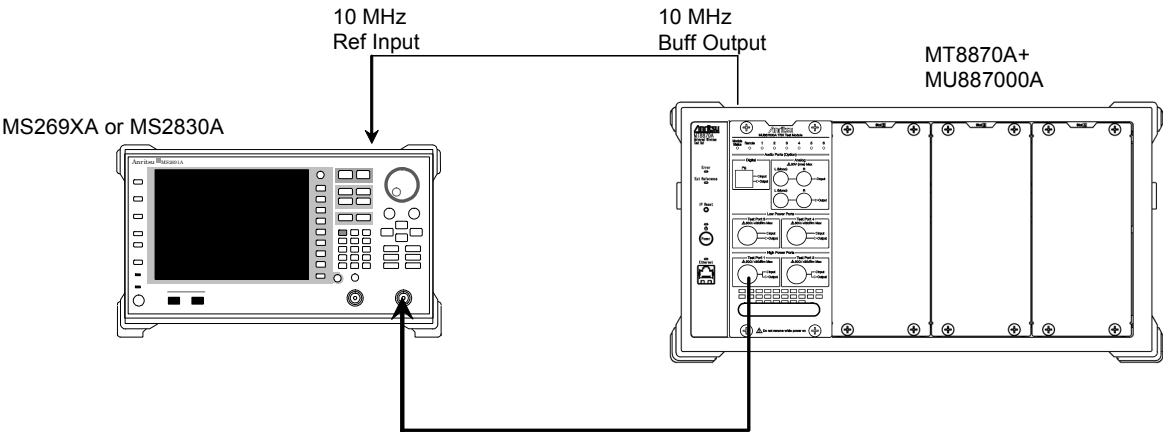

Figure 6.3.4-1 Output Phase Error/EVM Measurement Setup
1. Setup the instruments as shown in Figure 6.3.4-1.
2. Select the signal analyzer (SA) measurement software and set the following: